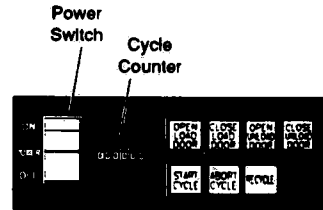

Figure 2-6. SECONDARY CONTROL PANEL
2. Open door to secondary control panel. Position POWER switch to ON (Fig. 2-6).